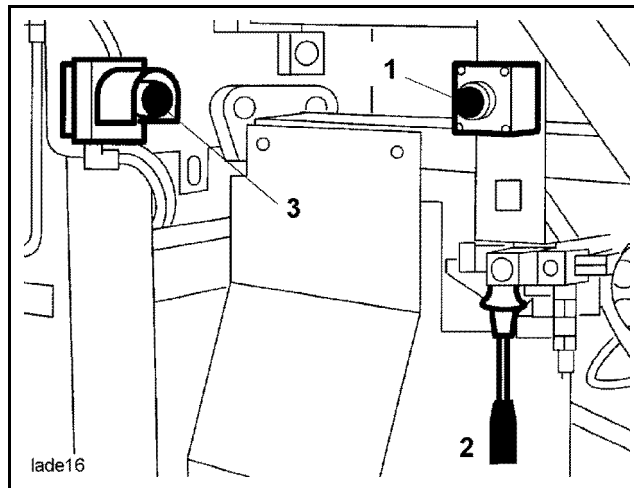

Fig. 532
- Press and hold the release button (1) (**Fig. 532**).
- Move the stowing box up or down with the control lever (2) (**Fig. 532**) until the respective limit stop is reached.
In case of faults or danger, pressing the EMERGENCY OFF button (3) (**Fig. 532**) interrupts the movement of the stowing box.